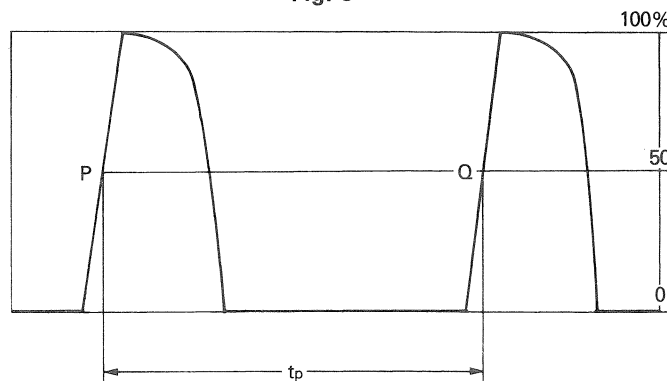

Fig. 9
- a) Proceed in the same way with the " $t_w$ " measurement, and dual pulse waves are formed on the screen. Refer to Fig. 9.
- b) The width of " $t_p$ " is read out and the repetition period is calculated from formula (3).